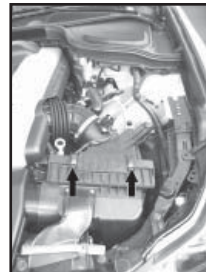

Fig. 3
4. Un-clip the two metal clips on the top of the air box, (Fig 3) pull up, the lid will slide out. Remove the lid and set it aside.